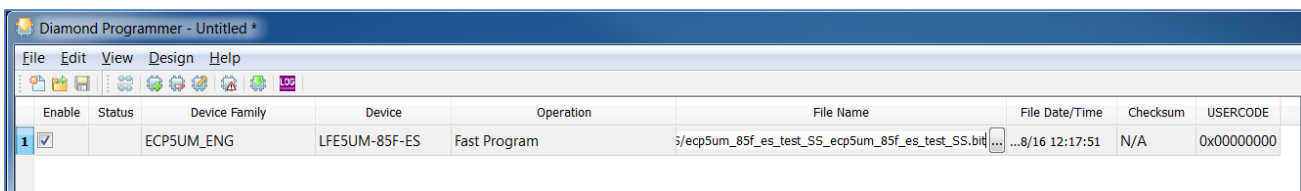

Figure 6.7. Bit File Selection
- The selected file is shown under **File Name** in the Diamond Programmer main interface as shown in Figure 6.7.